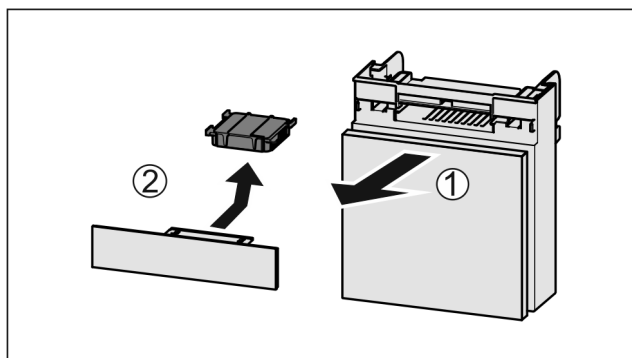

Fig. 37
- Pull out the compartment Fig. 37 (1).
- Remove the carbon filter Fig. 37 (2).